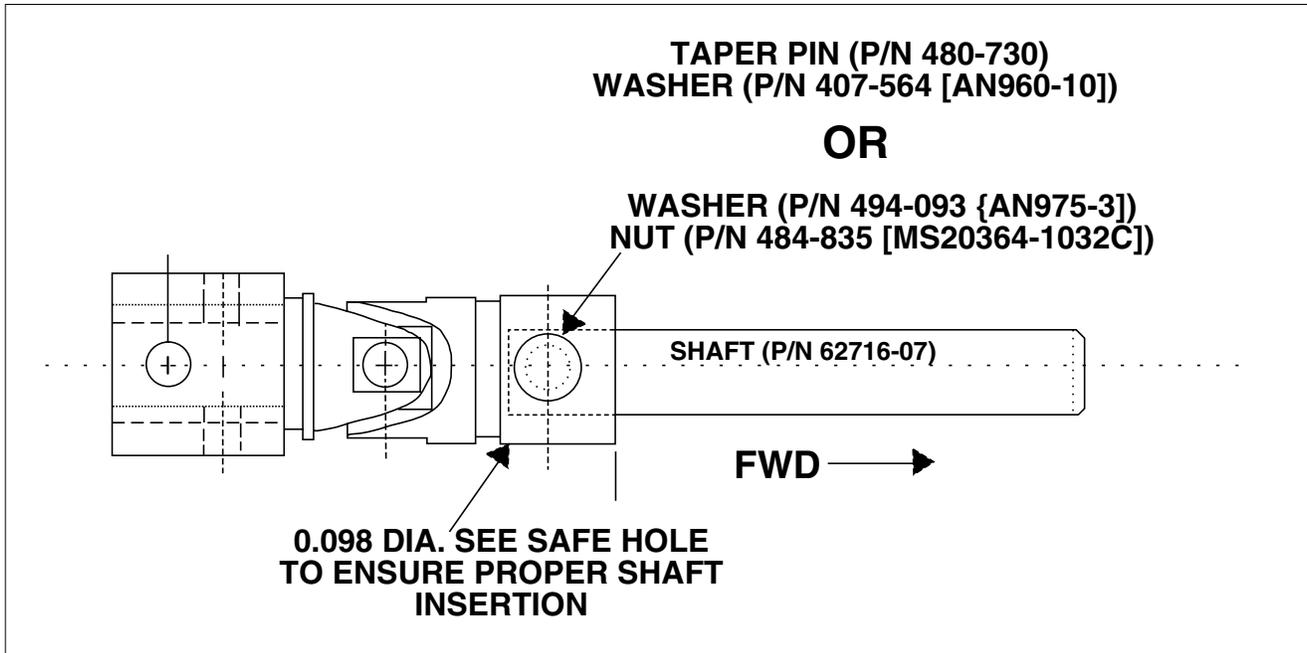

Figure 27-7. Flex (Universal) Joint Assembly
- h. Adjust the chain turnbuckle between the two control wheel sprockets to allow the control wheels to be neutral and obtain proper cable tension as given in Figure 27-7. It may be necessary in order to have both control wheels neutral to set the chain turnbuckle to neutralize the wheels and then set cable tension with the turnbuckles located under the floor panel aft of the main spar. Before safety wiring the turnbuckle, check that when the ailerons are neutral, the control wheels will be neutral and the chain turnbuckle centered. Also the aileron bellcranks should contact their stops before the control wheel hits its stop. Maintain 0.030 to 0.040 inch clearance between sprocket pin and adjustable stop bolts on models having adjustable tee bar stops.